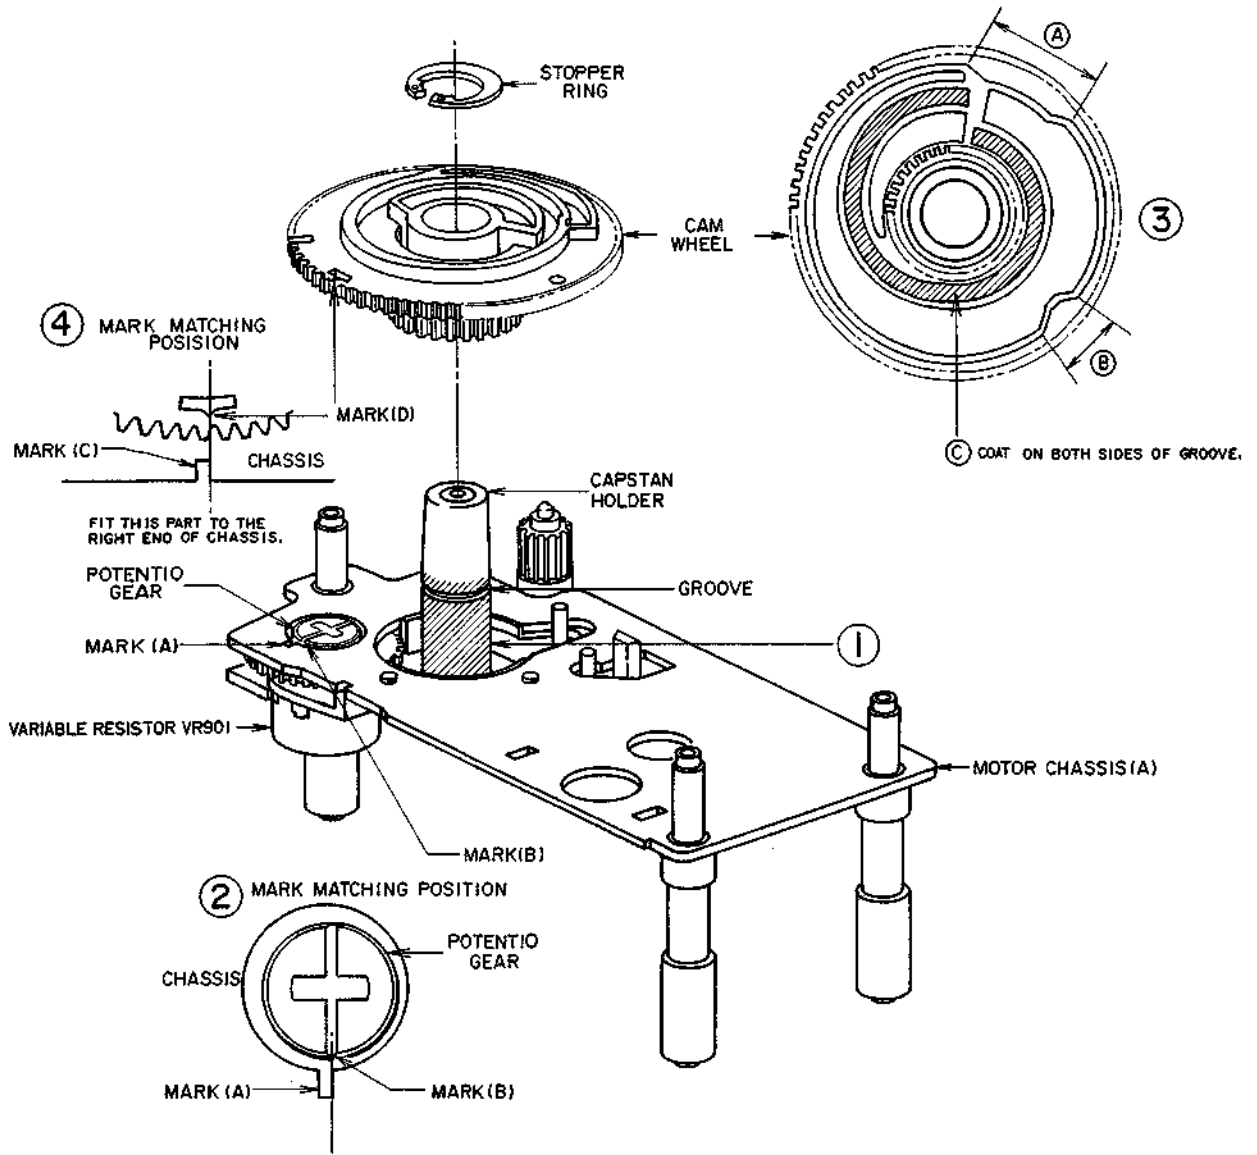

Fig. 7-3
- 1) Apply Molybdenum coat on the capstan holder. Apply Molybdenum coat on the area of 360° from the bottom to the upside 2mm of groove as shown in the figure. (Fig. 7-3 ①)
Fit the right end of Mark (A) to the center of Mark (B) as shown in the figure. (Fig. 7-3 ②)
- 3) Apply Molybdenum coat on (A), (B) and (C) shown in Fig. 7-3 ③.
- 4) Set the cam wheel on the capstan wheel (Ensure that the cam wheel and potentio gear are meshed properly). When the cam wheel is set properly, fit the center of Mark (D) to the right end of Mark (C). (Fig. 7-3 ④)